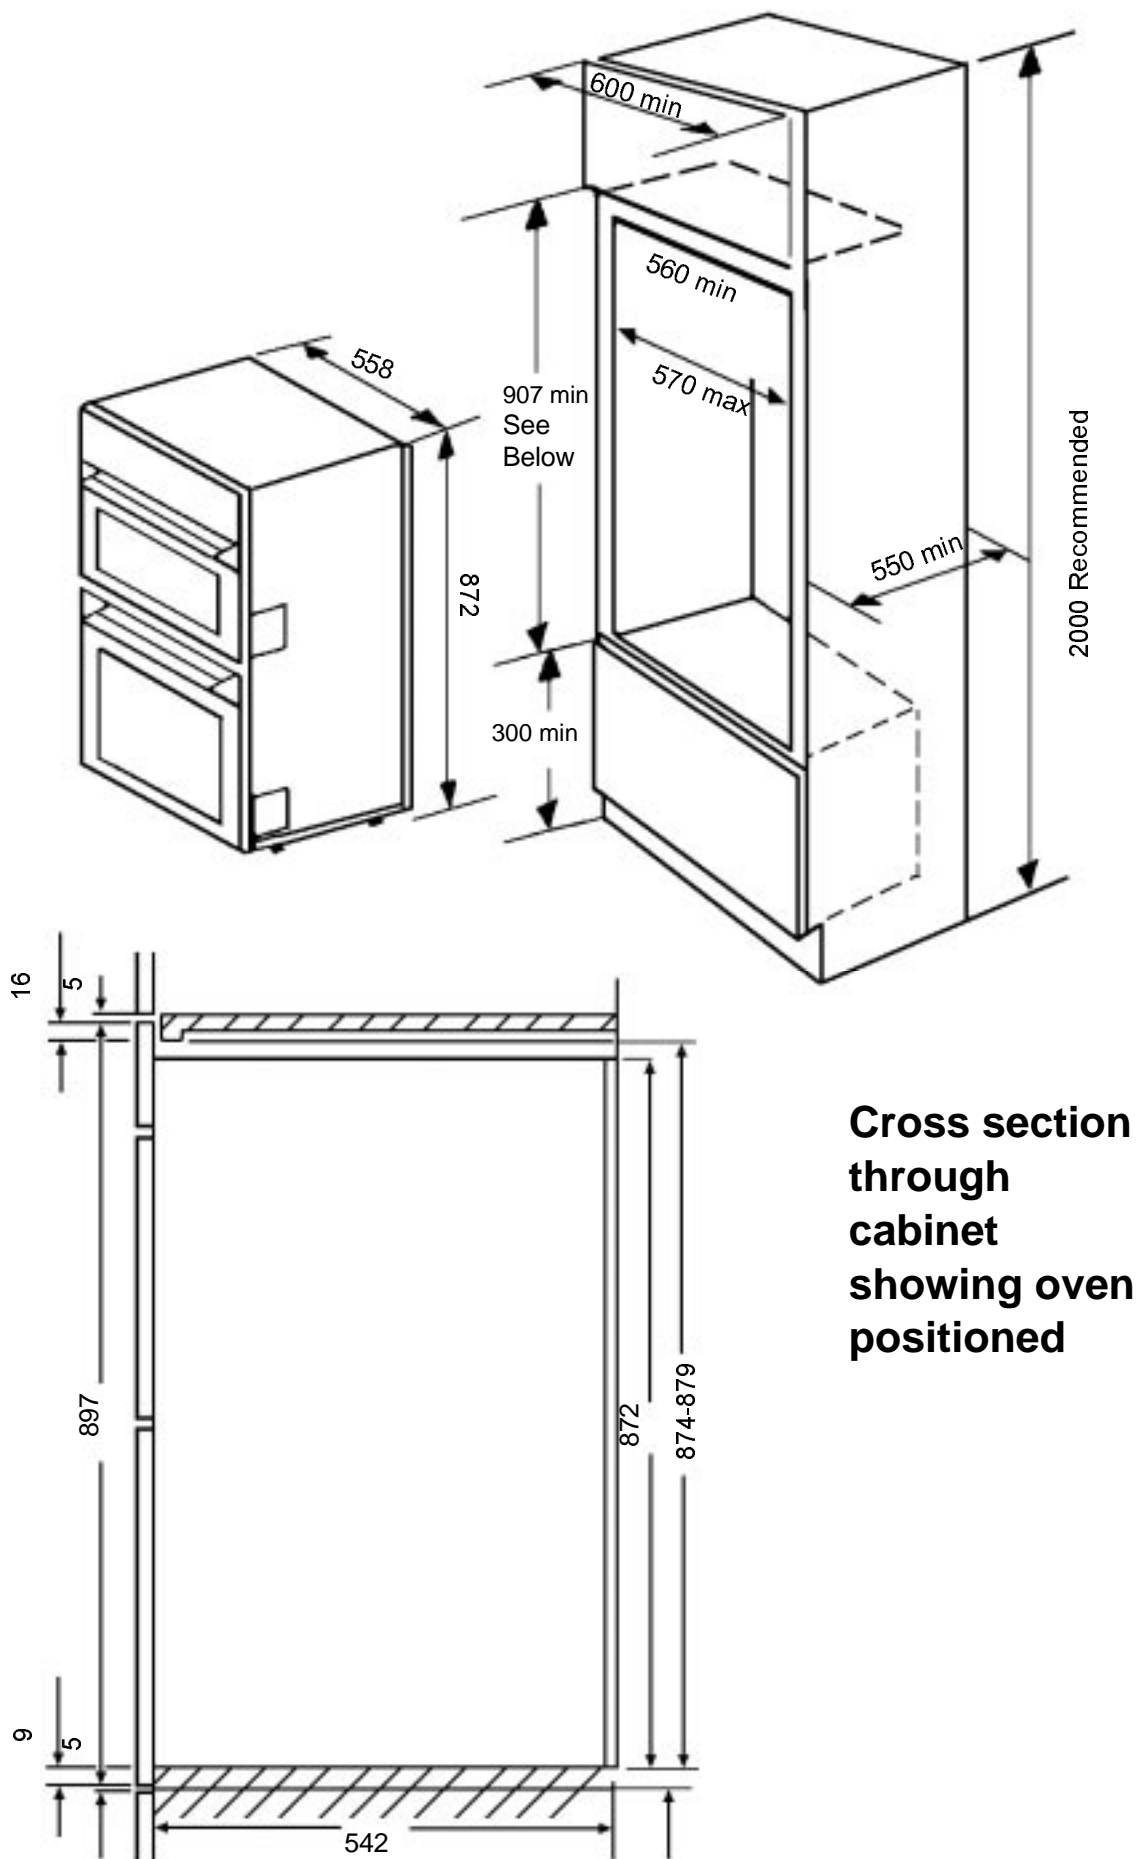

Fig.2 Built In Installation
- This appliance is designed to be fitted in cabinets of the recommended dimensions as shown (Fig. 2).
- Make sure the cabinet is the correct size for the appliance to be fitted (Ref. Fig. 2).